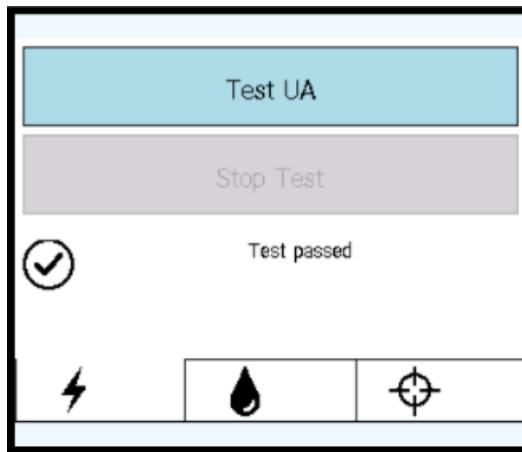
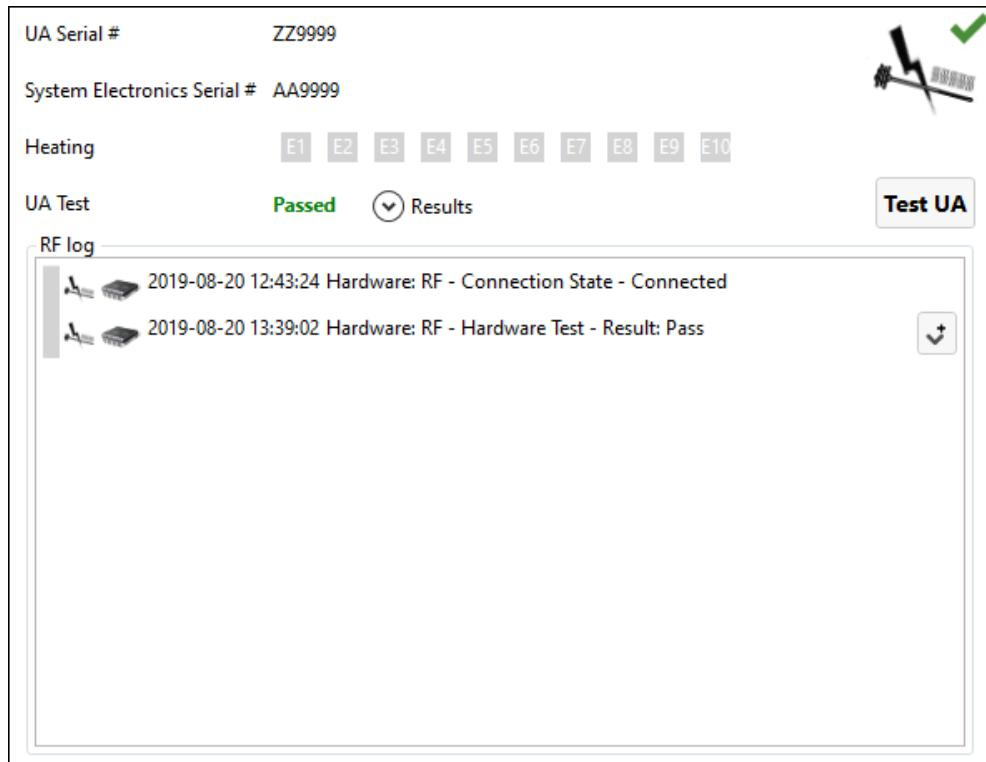

Figure 15: RF tab on PSIB display after successful RF connectivity test
Figure 16: RF information box in Setup workspace after successful RF connectivity test
3. In the **RF** tab  of the PSIB display, click **Test UA** (*Figure 15*).
The system will send a short burst of power to each of the ten UA elements to ensure continuity and functionality of all ten channels. This can also be done from the TDC Setup workspace from the RF information box in the top-right quadrant (*Figure 16*).
When the RF connectivity test is complete, the PSIB will display a short message (*Figure 15*). You can see detailed RF connectivity test results in the RF information box of the TDC software (*Figure 16*).